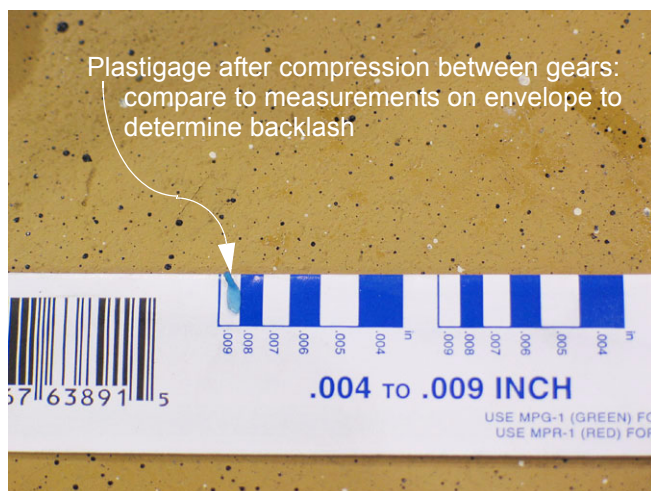

Figure 9.53
- 9.53. Add or remove shims from beneath the differential as necessary to obtain backlash of $.009" \pm .004"$ (.229 mm $\pm$.102mm). Repeat the measurement after each change to confirm the results. See Figure 9.53.